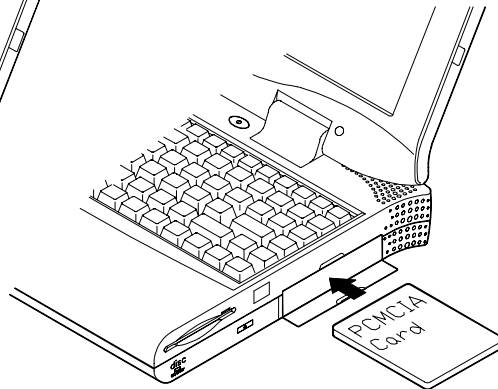

Figure 2-16
2. Align the PC card with the slot and push it in firmly until it locks into place (Figure 2-16).